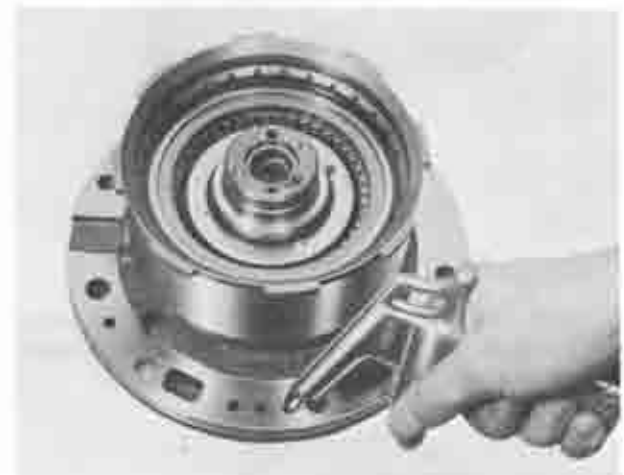

Fig. 7A-21 Testing front clutch
3. Install the front clutch assembly to the oil pump. Blow compressed air into the oil hole as shown in Fig. 7A-21 and check the clutch operation.